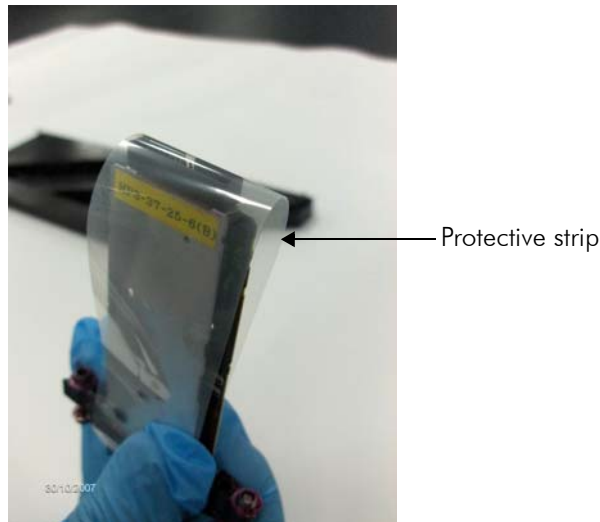

Figure 8-7 Protective Polyethylene Strip
- 16 Wrap the print head connector with the protective polyethylene strip, as shown in Figure 8-7 (supplied in the Accessories Kit).